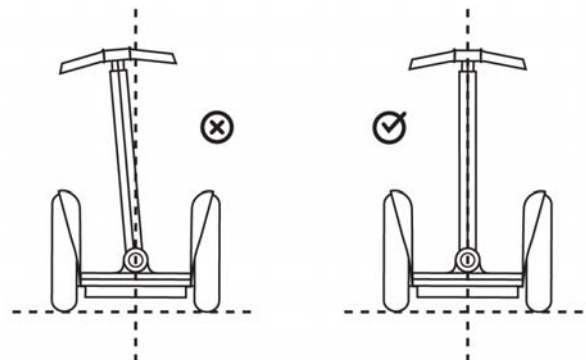

Figure 1-9: Ensure LeanSteer Frame Returns to a Straight-up Position
7. Move LeanSteer frame fully left and right, until it touches each fender, and ensure LeanSteer frame returns to a straight-up position. If LeanSteer frame does not return to a straight-up position, loosen wedge clamp fastener and return to Step 5. See Figure 1-9.